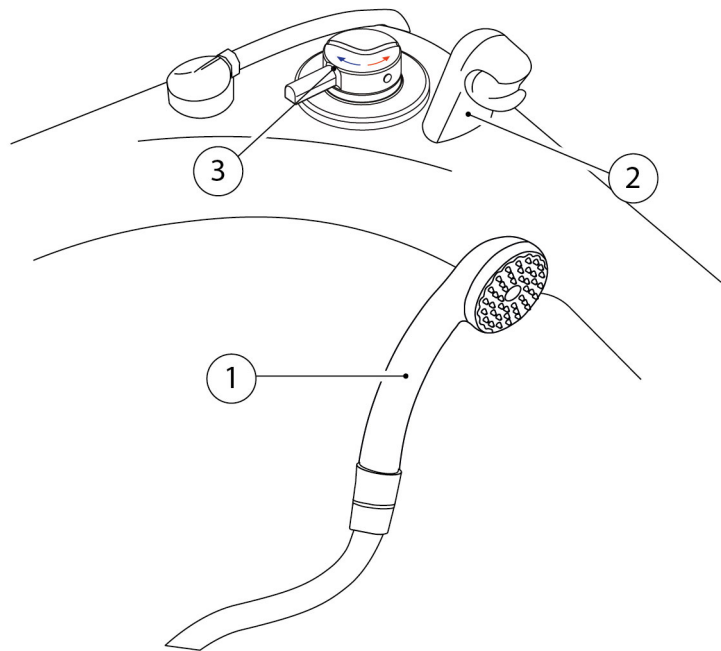

Fig 045I
1. Referring to Fig 045I, remove the shower head (1) from the holder (2) and, directing the shower head into the bath, turn the temperature control dial (3) anticlockwise fully until it is at its maximum temperature (indicated on the dial in red). This is the optimum showering temperature, which is controlled by a thermostatic valve and factory set at 38°C for safety.